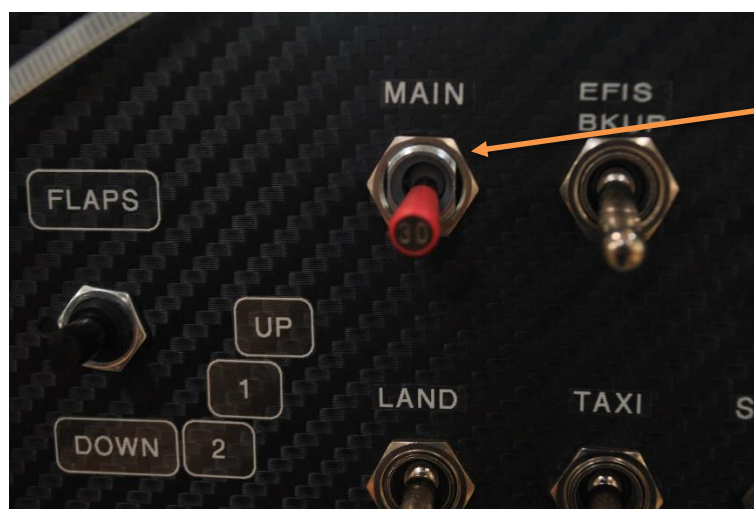

Figure 3: Location of nut on master switch
5. For the removal of the master switch, using the 9/16" spanner, remove the hexagonal shaped nut to allow the switch to be pushed out the back of the instrument panel. Refer to figure 3 for the nut to be removed.